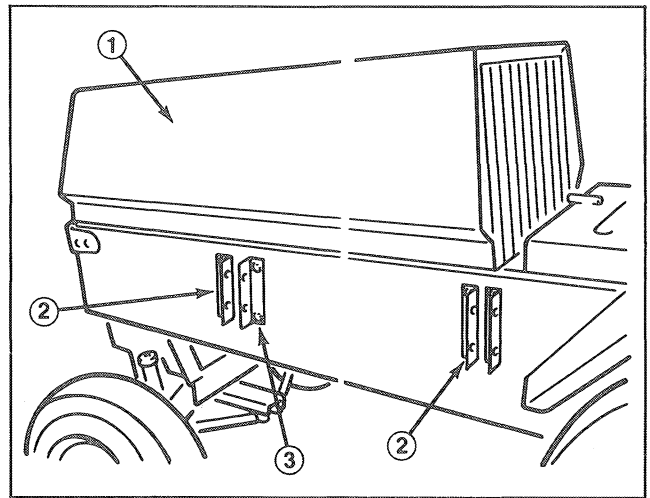

Figure 3
1. Position brackets over existing mounting holes as shown in Fig. 3. Mount brackets using (1)  $\frac{3}{8}$ -16 x 2" lg. capscrews, (7)  $\frac{3}{8}$ -16 x 1- $\frac{1}{4}$ " lg. capscrews (8)  $\frac{5}{16}$  washers, and (8)  $\frac{3}{8}$ -16 locknuts.